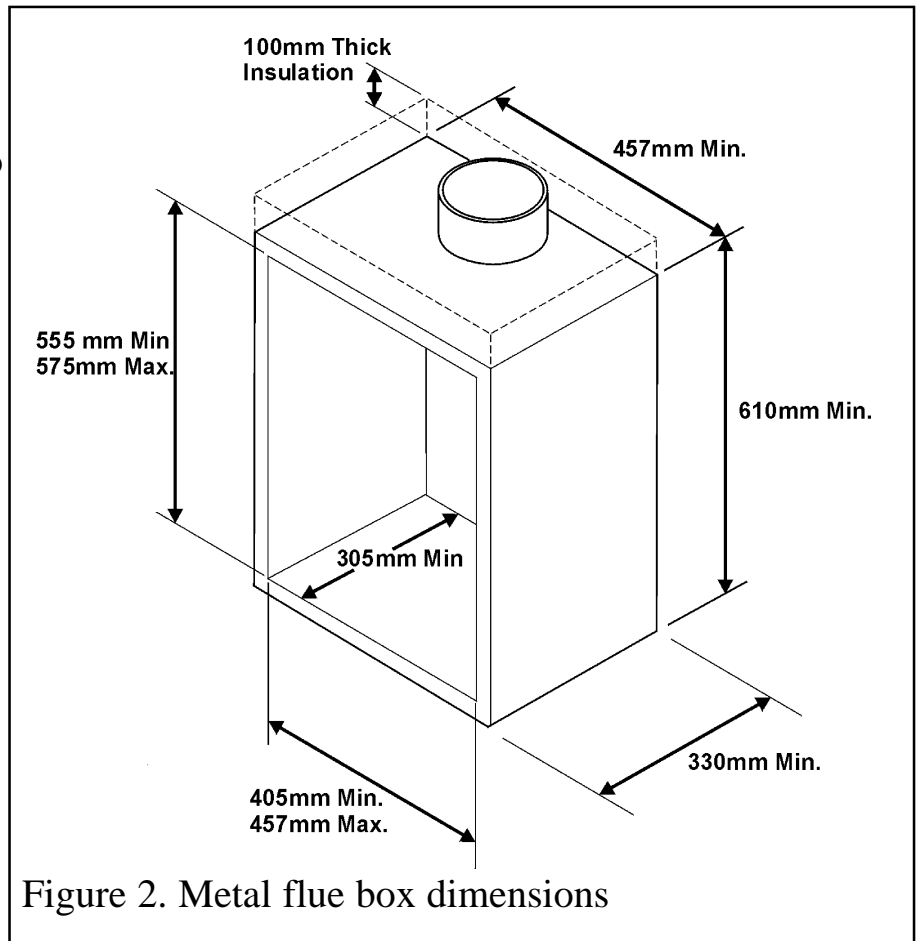

Figure 2. Metal flue box dimensions
3.2.2 To a fireplace incorporating a metal flue box complying with the constructional requirements of the current edition of BS EN 1856 Part 1 or BS715. The dimensions of the flue box must conform to those shown in figure 2.